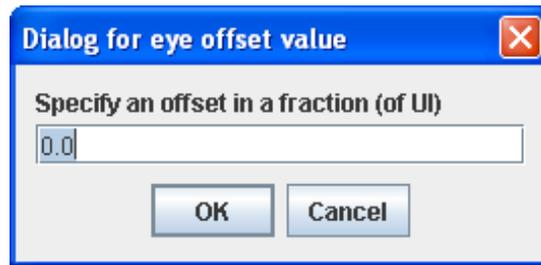

Figure 3.21: Pop-up dialog for the “Offset” item in the “Eye Mode” menu.
- **Offset:** will display a dialog, as shown in Figure 3.21, for user to enter a horizontal offset for shifting the eye pattern.